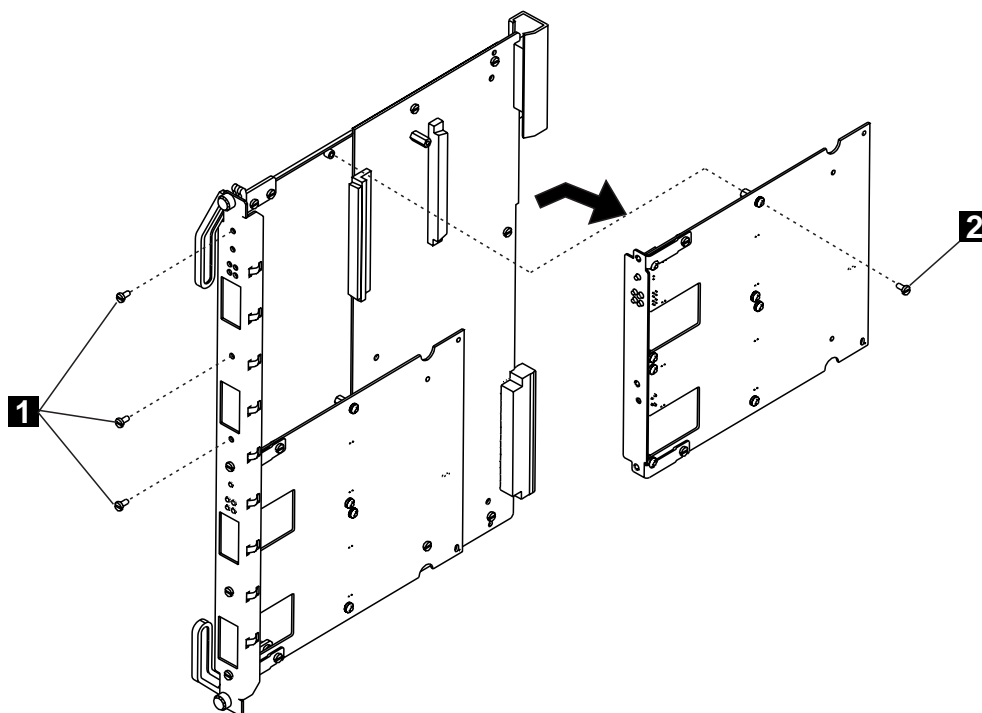

Figure 4. Removing the Motherboard
- 2 Detach the motherboard on which you want to install the I/O card by removing the four screws (1 and 2 in Figure 4) that hold the motherboard to the module. Save the screws in order to reattach the motherboard.